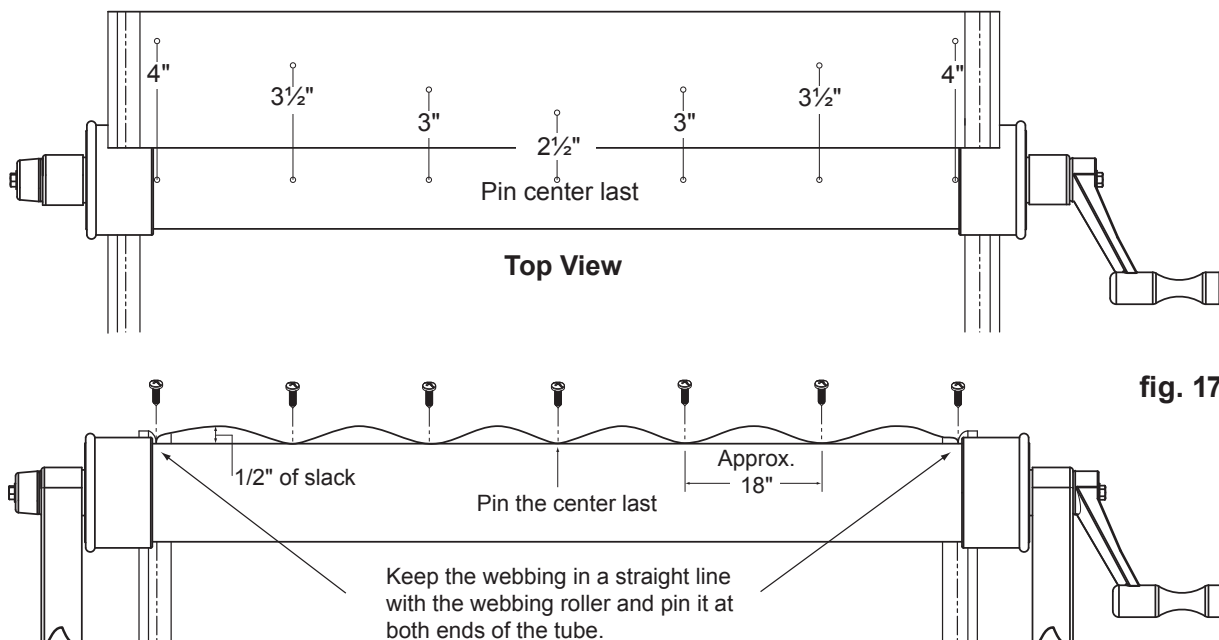

fig. 17
7.4 Attach the fabric to the roller tube. (fig. 17)